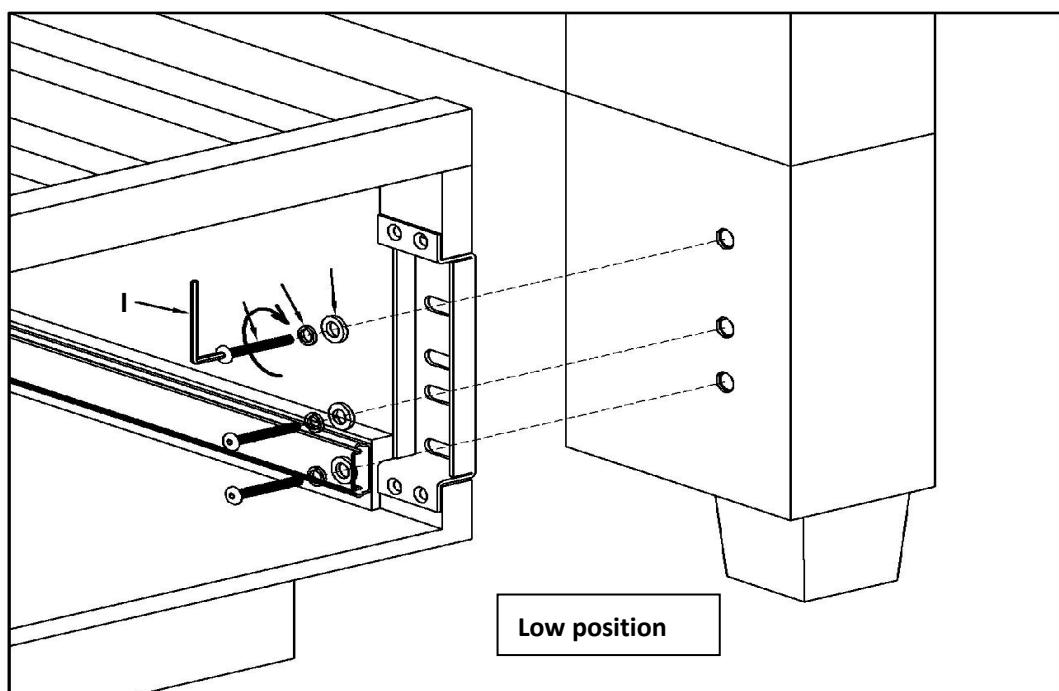

Fig. 5
8. Tighten all bolts using the supplied Allen Key (I).
- The Raleigh, York, and Georgetown headboards use the bracket with slots in the low position (as delivered from the factory). Distance from the floor to bottom hole is approximately 5-1/2". See Fig. 5. If installing a low position headboard, then skip to Step #11. See **Fig. 5**.